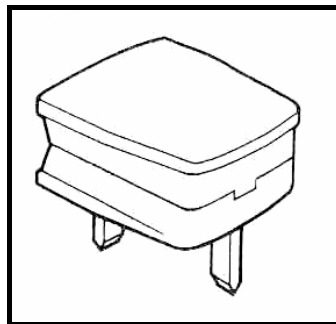

FIGURE 4.4
4.6 The casing and contact pins of the plug shown in FIGURE 4.4 is made of nylon and bronze respectively. Answer questions that follow.